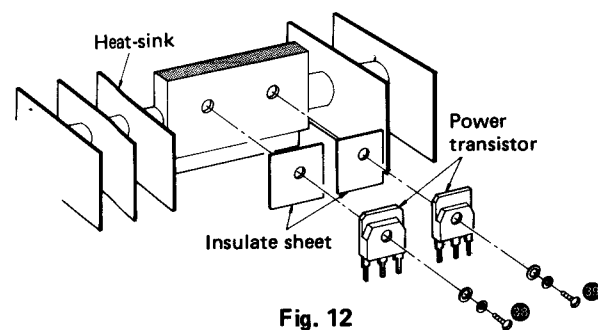

Fig. 12
3. Remove the 2 setscrews (38, 39 in Fig. 12) of the power transistor.
4. Remove the 2 setscrews (38 ~ 39 in Fig. 12) of the power transistor.